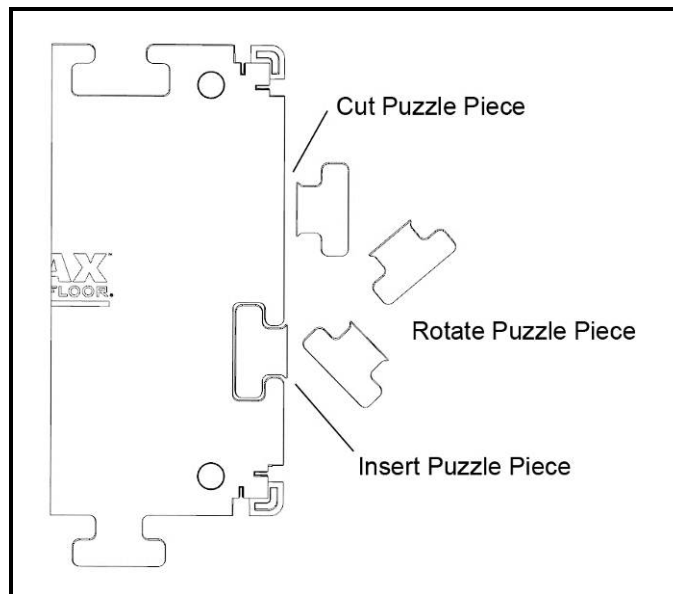

Figure 4
9. (Optional) The male end puzzle piece may be trimmed off the PFMAX panel and inserted into the female puzzle piece to fill in the holes along the edge of the PFMAX surface (see Figure 4).